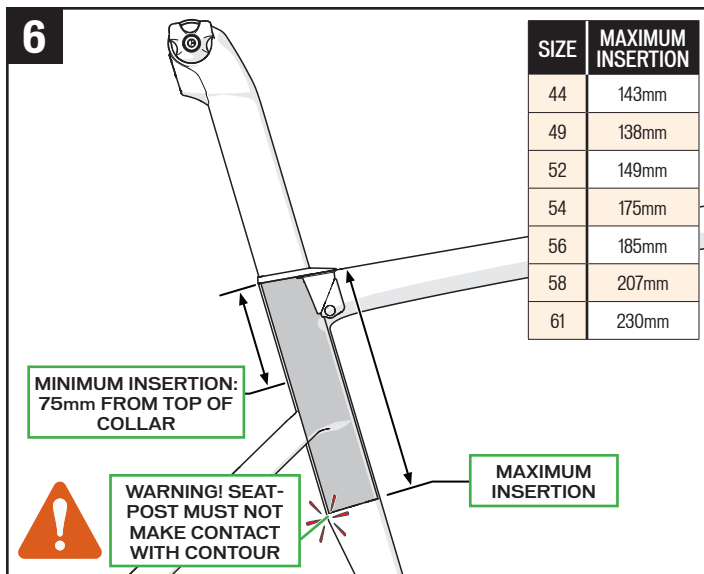

FIG. 6: Determine the saddle height.
- **MAXIMUM INSERTION:** The seat tube contour changes part-way down. This contour change limits the insertion depth of the seatpost. When inserting the seatpost, there should be sufficient space between the bottom end of the seatpost and the contour so as to not cause any structural damage to the frame. The maximum insertion requirement is size specific. Please refer to the table in fig. 6.
WARNING! Failure to follow the seatpost and frame insertion requirements (fig. 6) may result in damage to the frame and/or seatpost, which could cause you to lose control and fall.